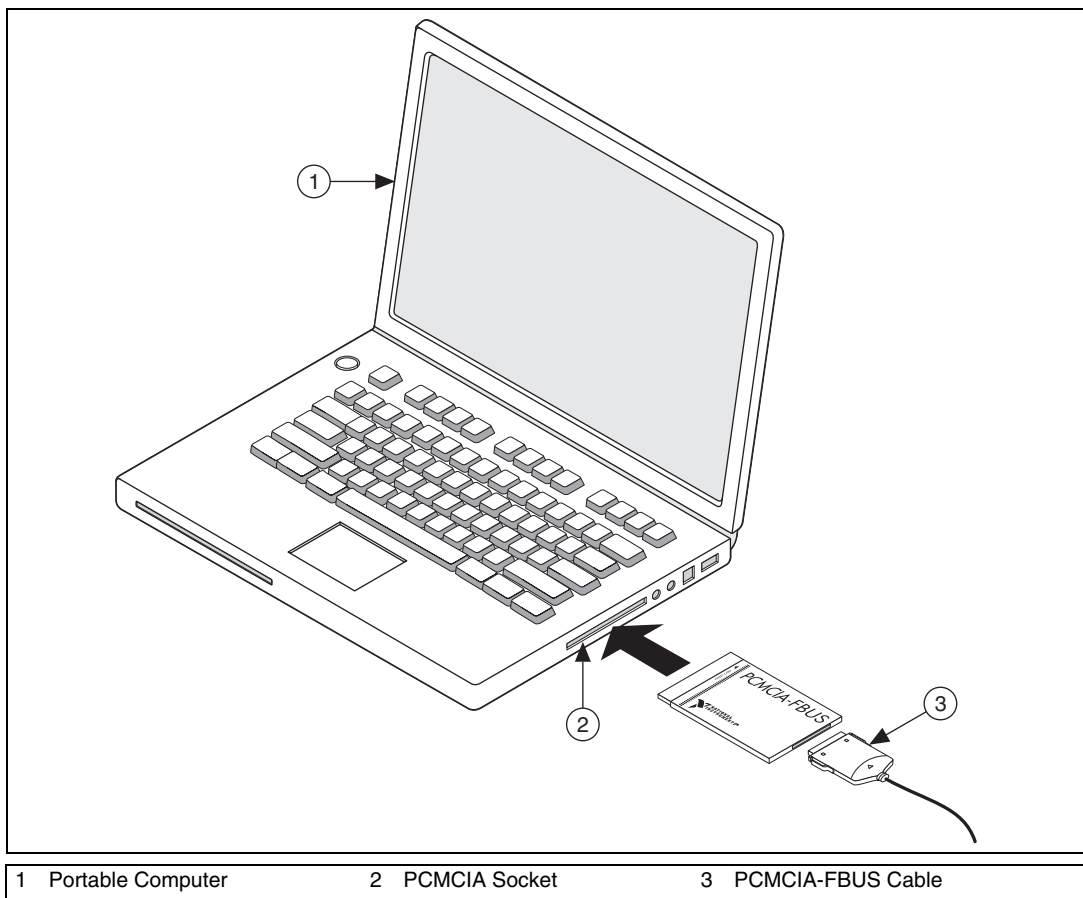

Figure 2-2. Inserting the PCMCIA-FBUS Card
2. Insert the card into a free PCMCIA (or Cardbus) socket. The card has no jumpers or switches to set. Figure 2-2 shows how to insert the PCMCIA-FBUS and how to connect the PCMCIA-FBUS cable and connector to the PCMCIA-FBUS card. However, the PCMCIA-FBUS/2 card has two connectors. Refer to Chapter 3, Connector and Cabling, for more information about these two connectors.